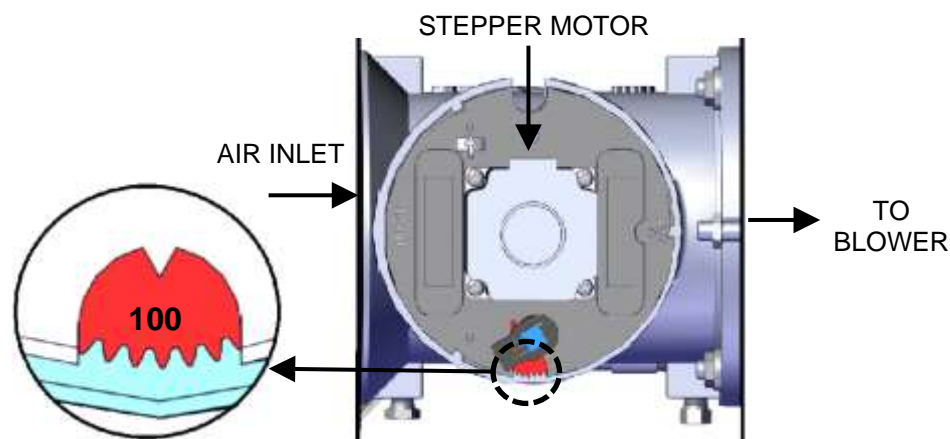

Figure 3-2a: BMK750 & 1000 Air/Fuel Valve in Purge Position
- b. The Air/Fuel Valve rotates to the full-open purge position and closes purge position switch. The dial on the Air/Fuel Valve (Figure 3-2a and 3-2b) will read **100** to indicate that it is full-open (100%).